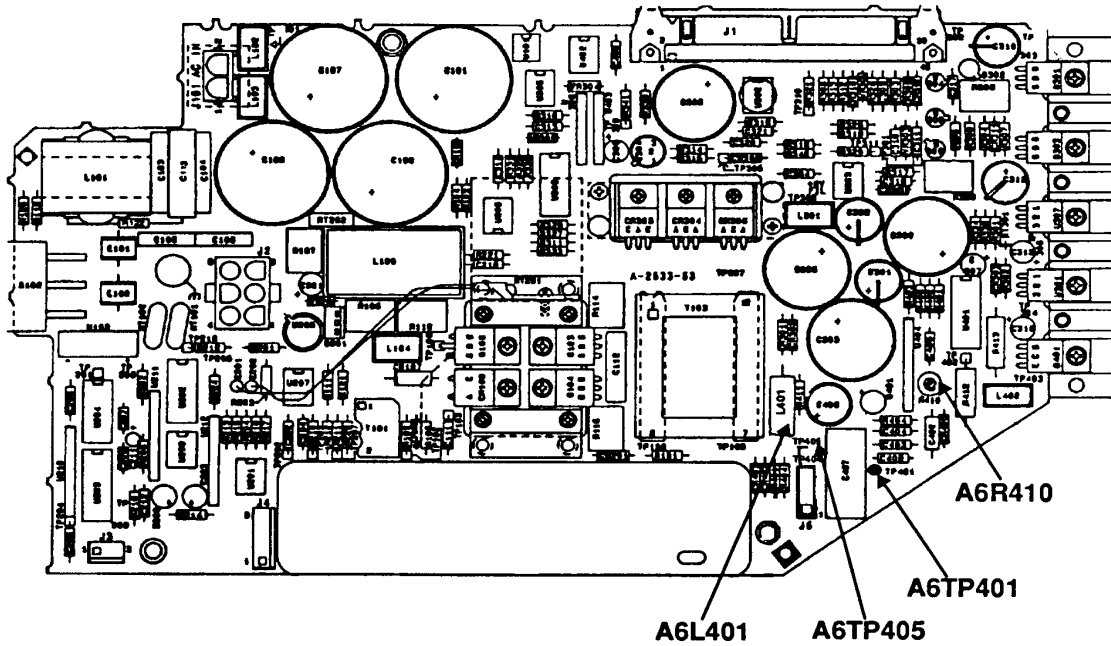

Figure 7. Power supply location sheet.
(2) Remove A6 power supply cover.
(3) Set multimeter to measure 1000 V dc.
(4) Connect multimeter **INPUT HI** to A6TP405 (fig.7) and **INPUT LO** to A6TP401 (fig. 7).
- (5) Record dc voltage marked on A6A1 HV module (located at TI top).
- (6) Note the value of inductor A6L401 (fig. 7). If A6L401 is 10 mH, perform (7) and (8) below. If A6L401 is 20 mH, perform (7) and (9) below.
- (7) Press TI **LINE** switch to **ON**.
Perform (8) below **ONLY** if A6L401 (fig. 7) is 10 mH.
- (8) If multimeter does not indicate a dc voltage equal to 2 V above the dc voltage recorded in (5) above, perform **b(1)** below.
Perform (9) below **ONLY** if A6L401 (fig. 7) is 20 mH.
- (9) If multimeter does not indicate a dc voltage equal to the dc voltage recorded in (5) above, perform **b(2)** below.
- (10) Press TI **LINE** switch to **OFF**.
- (1) Adjust A6R410 (fig. 7) for a dc voltage equal to 2 V above the dc voltage recorded in (5) above (R).
- (2) Adjust A6R410 (fig. 7) for a dc voltage equal to the dc voltage recorded in (5) above (R).